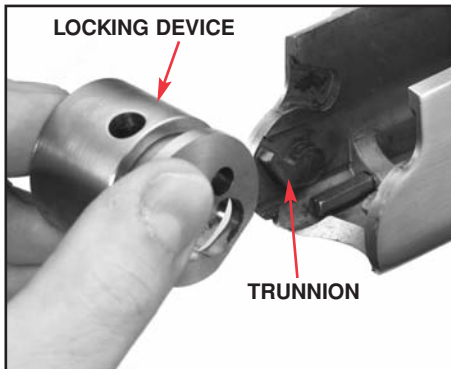

Figure 7a
6. Compress the locking device with your thumb and index finger. Hold it with the flat downward. (See Figures 7a and 7b.)